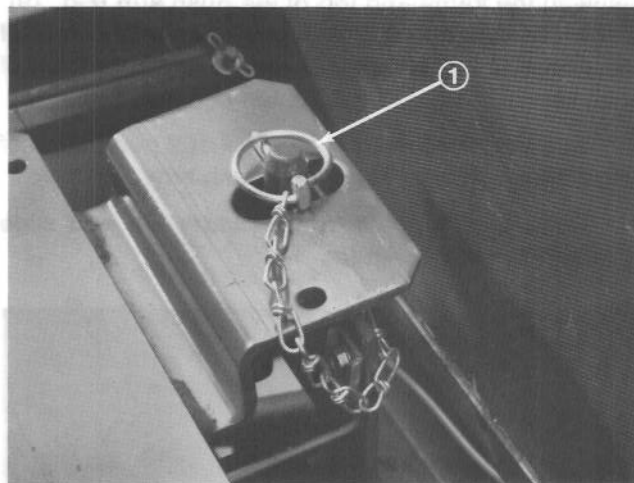

Figure 16
6. Disengage seat support rod and pivot downward (Fig. 16). Pivot seat down and push lynch pin through
seat latch stud. Flip wire end of pin over latch stud (Fig. 16).